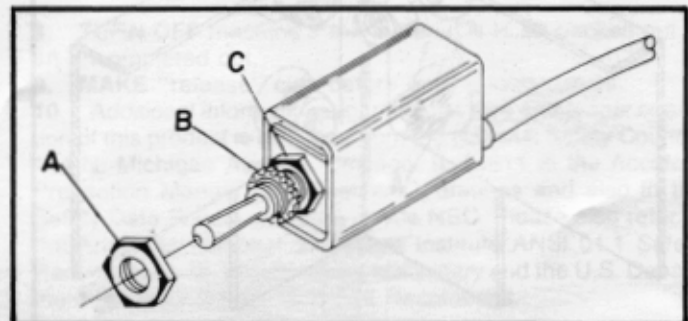

Fig. 8
2. Remove the outer hex nut (A) Fig. 8, from the switch stem. Leave external tooth lockwasher (B) and inside hex nut (C) on switch stem. **CAUTION:** The proper grounding of the switch to prevent shock hazard, depends on the use of the external tooth lockwasher in the manner shown.